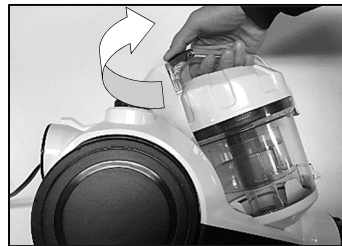

Fig 9
2. As shown on Fig.9, take the dust chamber out of the machine.